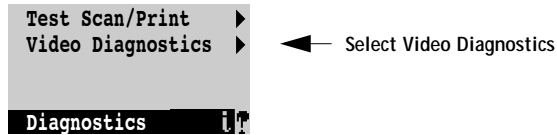

FIGURE 5-7 Video Diagnostics command
- At the screen shown in Figure 5-7, select **Video Diagnostics**.